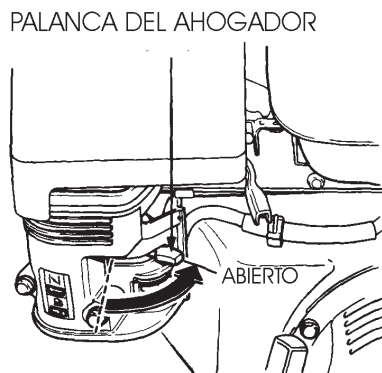

Figure 19. Engine Choke Lever (Open)
3. Place the *choke lever* (Figure 19) in the "**OPEN**" position if starting a **cold** engine.